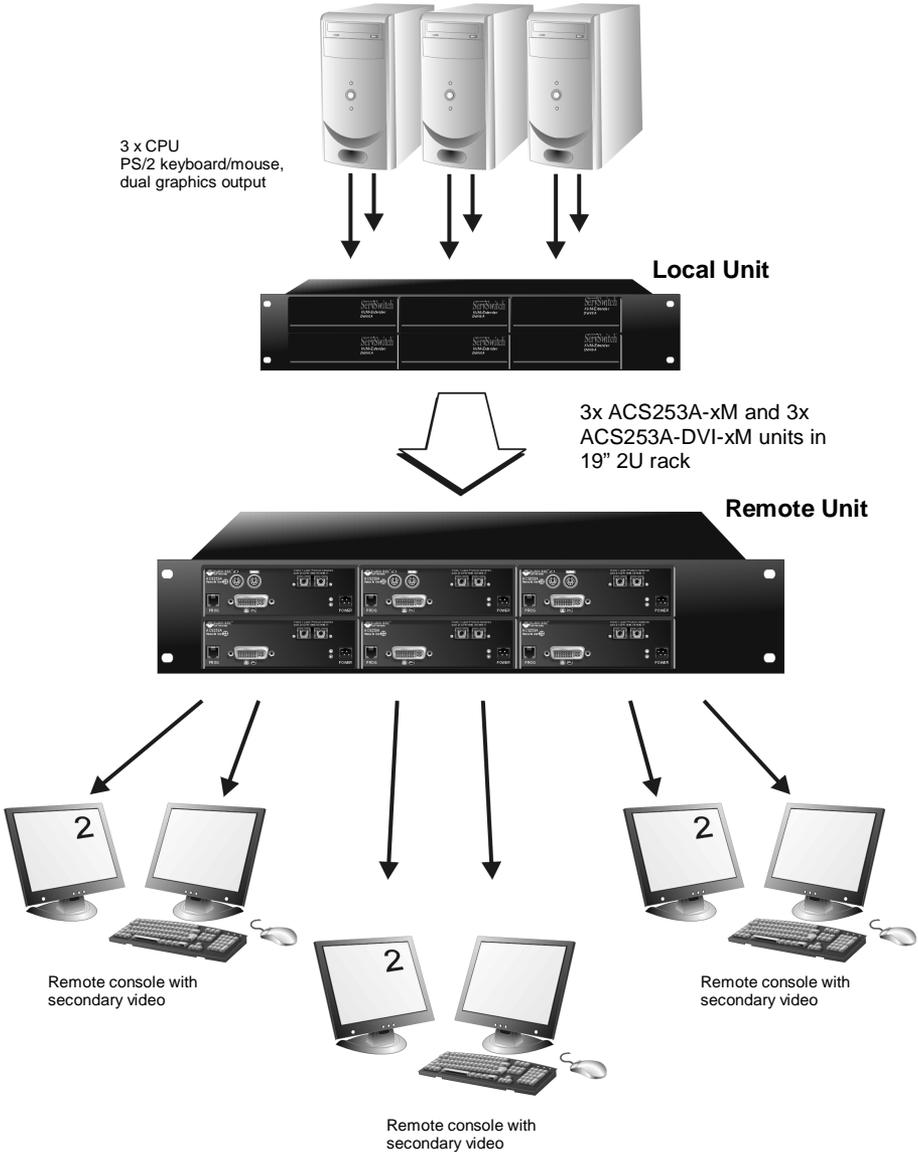

Figure 24 Multiple dual head application
- 3x Dual Head application in 19"/2U (Figure 24).